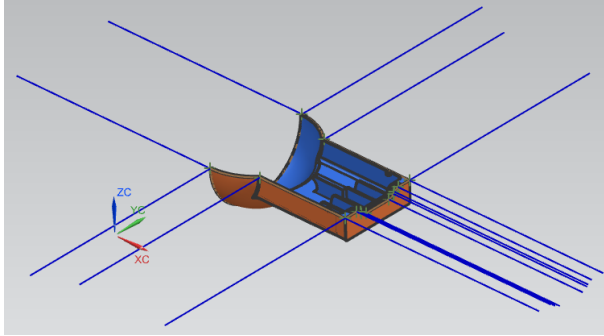

*Figure 15-97 The Design Parting Surface dialog box*
1. Choose the **Design Parting Surface** tool from the **Parting Tools** gallery of the **Mold Wizard** tab; the **Design Parting Surface** dialog box is displayed, refer to Figure 15-97.